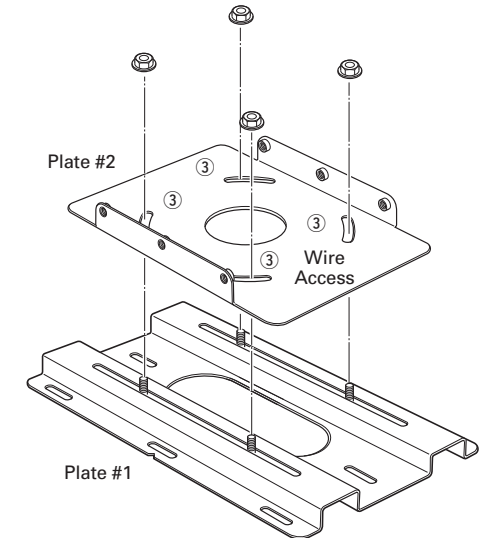
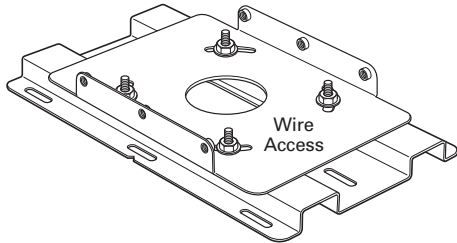

Figure 10
Figure 11
- Base plate connector holes ③ provide 15 degrees of horizontal rotation adjustment. Attach horizontal adjustment Plate #2 to the projector mount ceiling Plate #1 using the four (4) 5/16-18 inch nuts and washers provided. Refer to Figures 10 and Figure 11 on page 8.